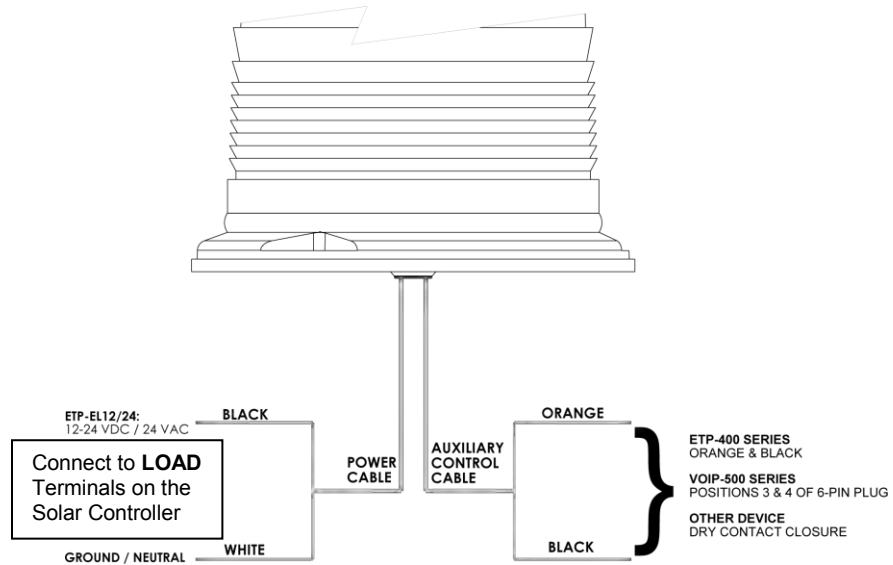

Figure 29. Electrical Connections to the ETP-EL 12/24 LED Blue Light
- The LED Blue Light (as shown in **Figure 29**) and LED Panel Light power wires should be connected to the "LOAD" terminals on the controller.